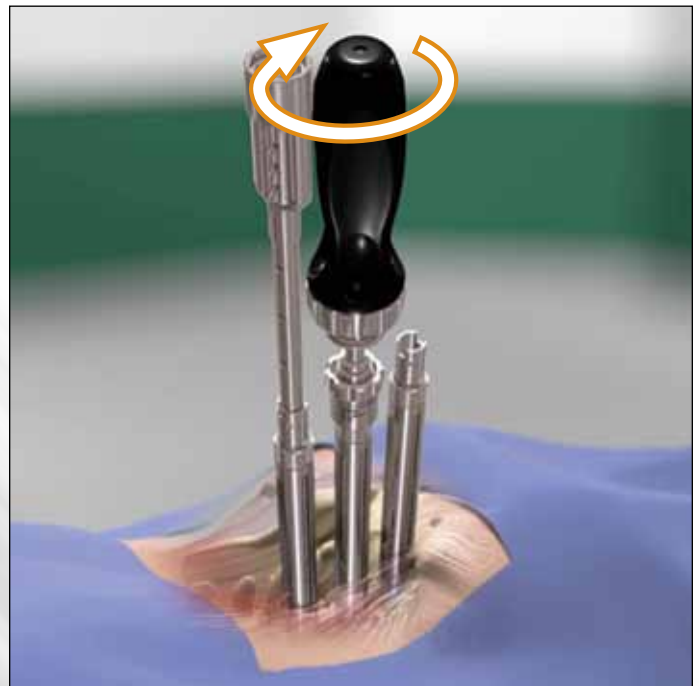

FIG. 30
- Rotate the threaded rod clockwise to drive the rod until it is fully seated. (FIG. 30)